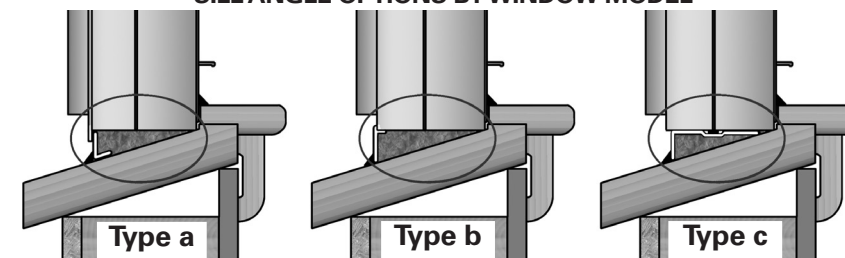

Figure 2
- a. For windows with sill adapters and exterior flanges (**Figure 2, Type a**):
- For windows with an exterior accessory groove in the sill, insert the sill adapter tongue into the sill's exterior accessory groove and tap into place (see **Figure 2, Type b**).
- For windows without an exterior accessory groove in the sill, use an L-shaped sill adapter (see **Figure 2, Type c**). Apply a 1/4" min. bead of exterior grade sealant along the full length of the trough on the top edge of the profile. Slide the adapter with batt insulation underneath up along the sloped sill until the adapter's top is flush against the new window sill's bottom, compressing sealant bead up against the sill of the replacement window.